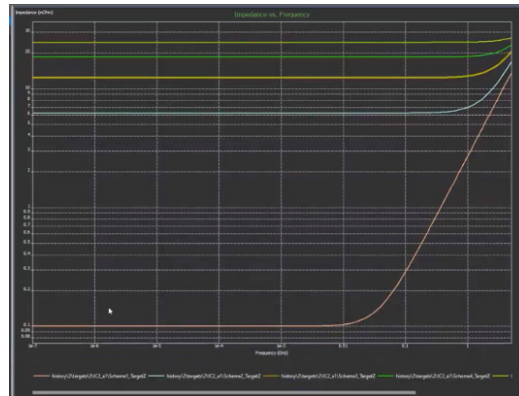

Figure 28: Results from target impedance simulation
**Step 2:** Once the IC model is defined, the target impedance needs to be generated. In the background various other Sigirty tools are being used to provide various target impedances that can be fed back to the board package designers. After the simulation is completed on the target impedance, Figure 28 shows the results. This reflects the multiple solutions that will meet the given power ripple spec, along with the PWL of the IC.